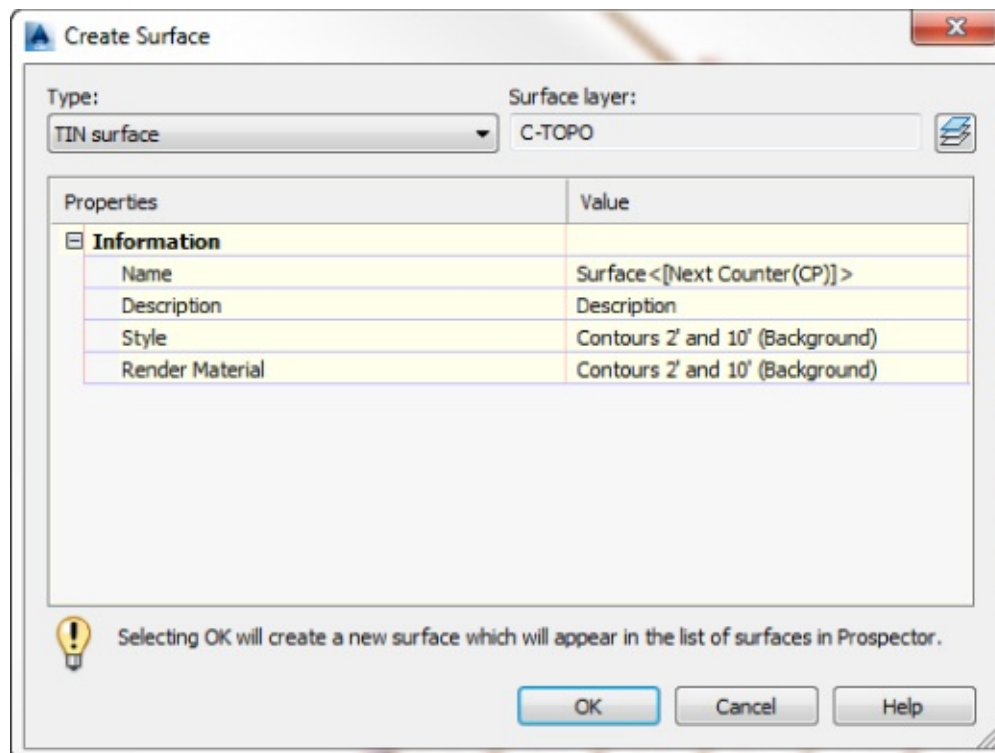

Figure 4.3 Creating your first new TIN surface
3. In the Create Surface dialog, shown in Figure 4.3, click in the field for Name.